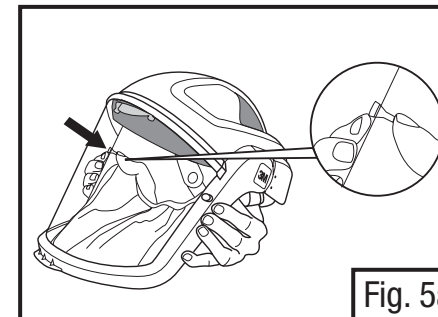
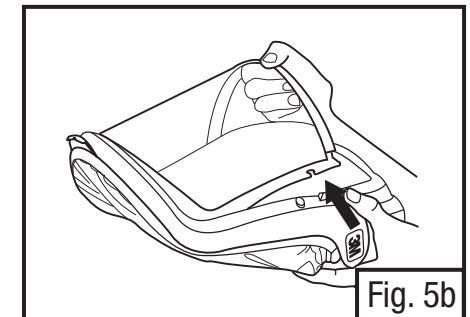

Fig. 5a
Fig. 5b
- With the visor frame in the down position (M-100 & M-300), release the visor frame buttons by pushing the buttons outward from inside the visor frame, one “click” (Fig. 5a). Move the visor frame to the up (open) position and pull on visor to remove from frame (Fig. 5b). If using the M-400, it may be easier if the visor frame is in the up (open) position to release the buttons and remove the visor.
- With the visor in the up (open) position, install a new visor by inserting visor into the groove in the frame, lining up the notches in the visor with the visor frame buttons. Ensure visor is fully seated in the groove (Fig. 5b).